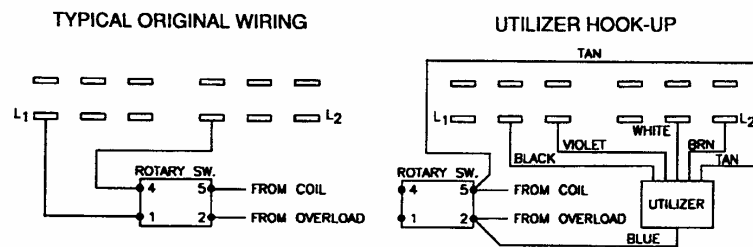

Figure 7. Single Start Switch With 6 Bar Terminals (without door interlocks)
1. Check the dishmachine voltage. Make sure the Utilizer III wiring matches (see Figure 7).